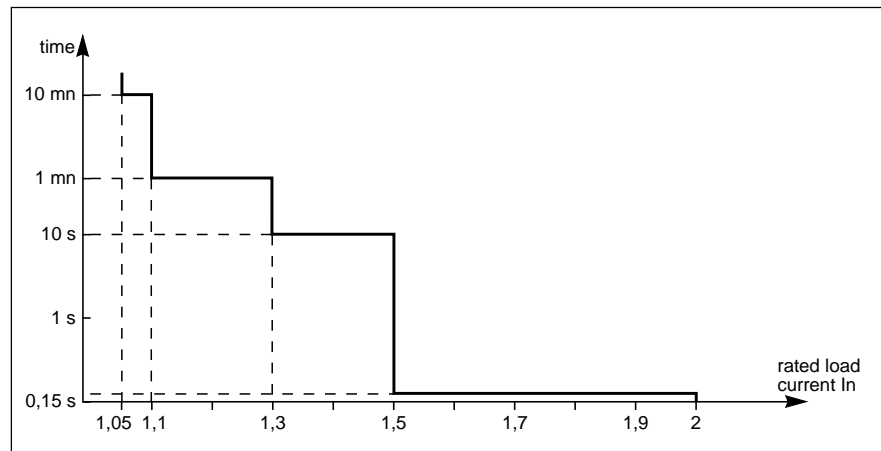
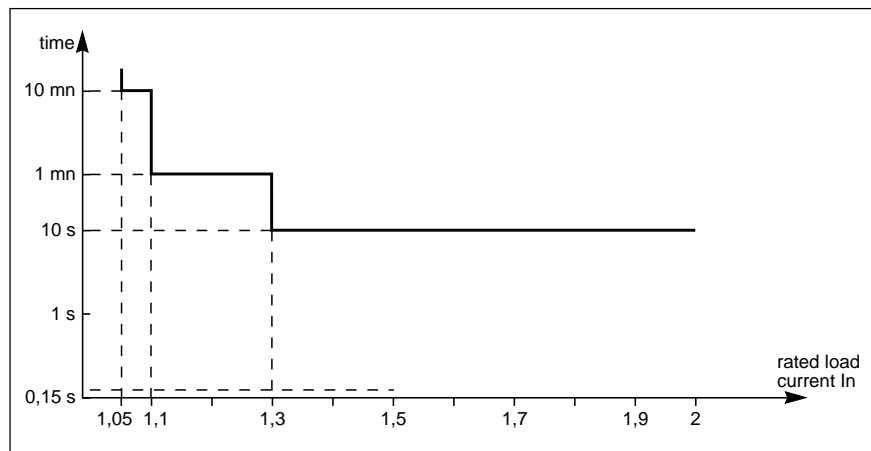

Fig. 21
Fig. 22
- ▷ the load is supplied by AC input power via the "static bypass" (3),
- ▷ return to the inverter (7) is automatic, following elimination of the overload;
- ▶ the inverter can handle a minor overload for a given duration depending on the size of the overload. See figure 21;
- ▷ the buzzer (17) sounds,
- ▷ the orange "fault" light (19) goes on,
- ▷ the inverter (7) shuts down at the end of its corresponding overload time,
- ▷ the green "load protected" light (21) goes off,
- ▷ the red "load not protected" light (18) goes on.
- If the overload continues during operation via the "static bypass" (3), the supply of power to the load is interrupted after a specified time. See figure 22.
Minor overloads can be supplied by the inverter for a duration defined in figure 21 for an ambient temperature of less than 30°C. Above this temperature, a derating coefficient k must be applied to the rated current and therefore to the overload curve in figure 21: